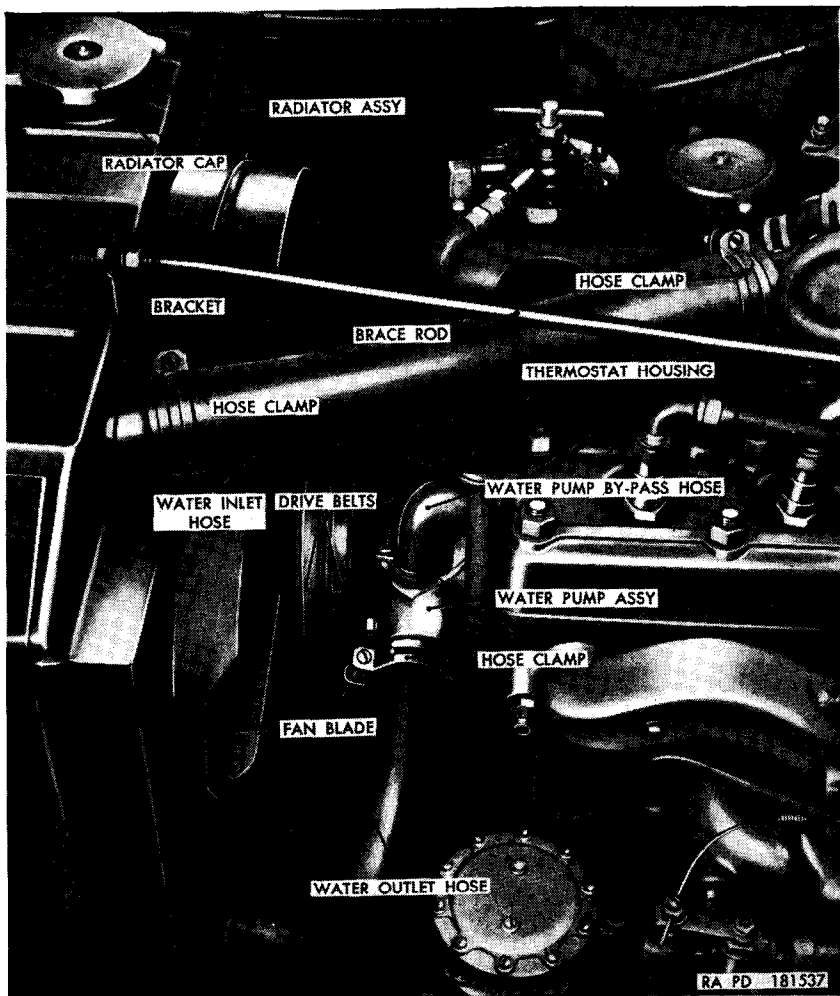

Figure 39. Cooling system.
- (1) *General.* The cooling system (fig. 39) is fully sealed and pressurized. The system consists of a water pump, water pump bypass, fan, drive belts, radiator, thermostat, and connecting hose. Water is drawn down through the radiator to the bottom thence through the water outlet hose to the water pump which forces it through the cylinder block, cylinder head, and the water inlet hose to the top of the radiator. Air, for cooling the water, is drawn through the radiator by the fan. Correct operating temperature is maintained by the thermostat.
- (4) *Water pump assembly.* The water pump assembly (fig. 39) is the centrifugal-type, located at the front of the cylinder block.
- (5) *Fan.* The fan has four blades and is mounted on the fan and water pump pulley. The water pump and fan are driven by a matched pair of V-belts.
- (1) Drain the cooling system (par. 121).
- (2) Remove the radiator guard (par. 263).
- (3) Loosen the nut on the rear end of the brace rod (fig. 39). Loosen the nut on the front end of the brace rod, securing the rod to the bracket, sufficiently to permit the rod to be pulled up out of the bracket. Lift the rod out of the bracket and swing it toward the rear of the vehicle to clear the radiator assembly.
- (4) Loosen the two hose clamp screws on the water inlet hose (fig. 39) and remove hose. Loosen the two hose clamp screws on the water outlet hose (fig. 39) and remove the hose.
- (3) Install water inlet hose (fig. 39) and tighten both hose clamp screws. Install water outlet hose (fig. 39) and tighten both hose clamp screws.
- (4) Swing the brace rod (fig. 39) toward the front of the vehicle and align rod with slot in bracket on the radiator assembly. Position flat washer against the rear nut at the front end of the rod, position lockwasher and flat washer against the front nut at the front end of the rod. Slide the rod down into the slot. Make sure that one flat washer is at the rear of the bracket and one flat washer at the front. Adjust the rear nut so that the washer is snug against the rear of the bracket. Tighten the nut at the front end of the rod. Fill the cooling system (par. 121) and check for leaks. Install the radiator cap. Start the engine and run until normal operating temperature is reached. Recheck the coolant level.
- (2) Remove the fan and generator drive belts (par. 123*b*).
- (3) Remove the water outlet hose (par. 122*a*(4)).
- (4) Loosen the hose clamp screws securing the water pump bypass hose (fig. 39) to the water pump assembly and cylinder head and remove the hose.
- (6) Remove four bolts and lockwashers securing the water pump (fig. 39) to the cylinder block and remove the pump and gasket.
- (2) *Water pump assembly.*
- (b) Position pump in opening in front of cylinder block, at the same time, sliding water pump bypass hose (fig. 39), with clamps in place, over connections on water pump and cylinder head.
- (d) Tighten hose clamps securing the water pump bypass hose (fig. 39) to the water pump and the cylinder head.
- (e) Install the water outlet hose (fig. 39), with hose clamps, on the radiator outlet and the water pump connections, and tighten the hose clamp screws securing the hose.
## 125. Radiator and Water Pump Bypass Hose (fig. 39)
*a. Removal.* Drain cooling system (par. 121). Remove three screws and lockwashers holding thermostat housing (fig. 39) to cylinder head. Loosen hose clamp screw on radiator end of water inlet hose (fig. 39). Lift thermostat housing from cylinder head, being careful not to damage thermostat, and pull inlet hose from radiator. Use pliers to remove thermostat retainer from housing and remove thermostat. Discard gasket.